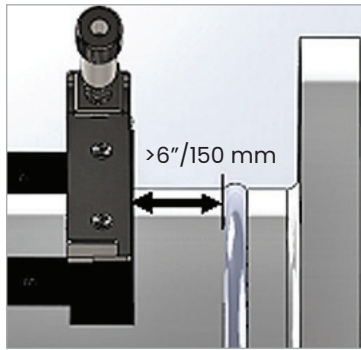

Figure 10: Adjusting the fixture position
3. Adjust the clamp-on fixture position so that the outer edge of the closest end piece is located at the chosen distance from the nearest inlet, outlet, joint or fitting in the pipeline (see *Figure 10* at right).